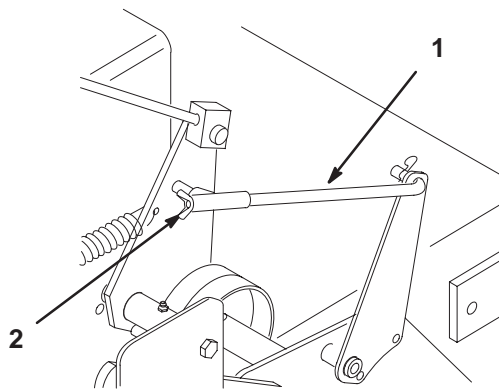

Figure 41
- To adjust brake set the parking brake latch, and rotate the wing nuts on the brake rods (Fig. 41). Clockwise to tighten the brake and counterclockwise to loosen the brake.